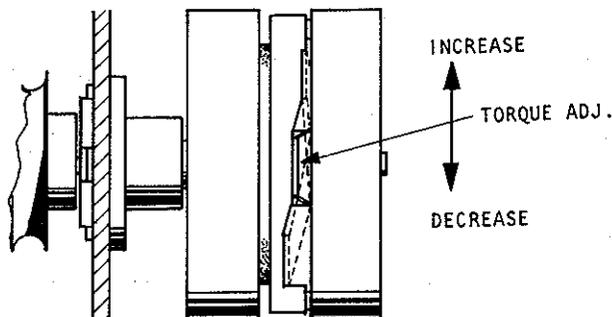

Fig. 1-1
- (2) Take-up Torque should be  $40 \pm 10g\text{-cm}$ .
- (3) To adjust torque, move take-up spring as shown in Fig. 1-1.
- (4) If torque is not sufficient during play mode, bend the take-up spring equally or replace the take-up spring.